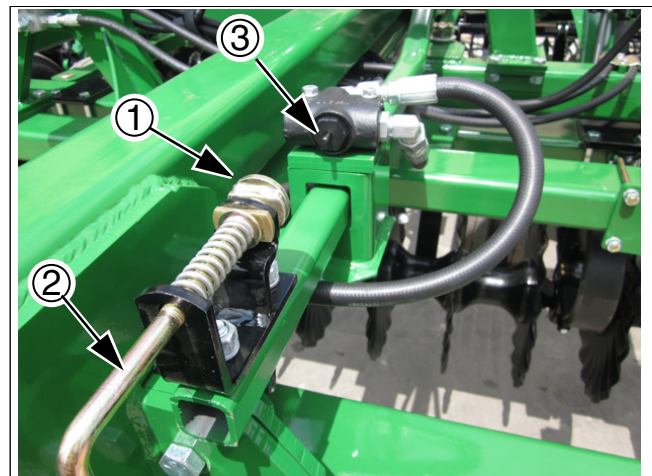

Figure 32
19. *Refer to Figure 32*. Once the machine is level and set to the desired depth, set the depth stop ① at the front of the machine to ensure that the unit will operate at a consistent depth every pass. After setting the stop, if a change of depth is desired, 1 full turn of the handle ② either in or out will change the depth approximately 1/4" up or down respectively.